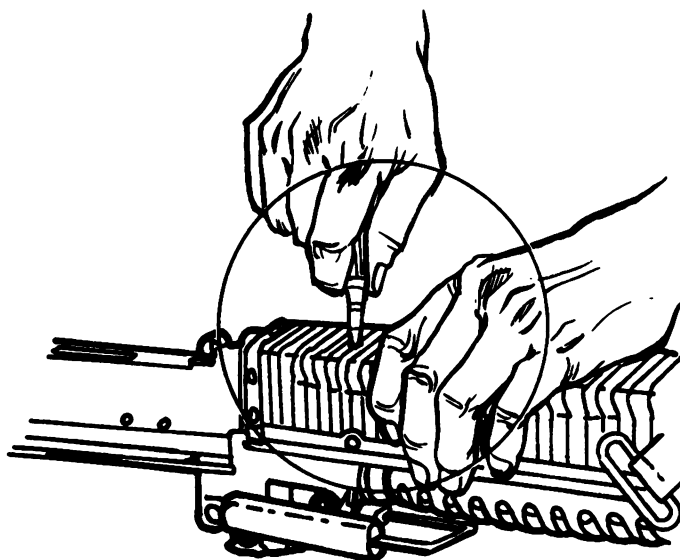

Figure 11. Removing the forearm assembly.
- (1) Turn the receiver so that the top is down.
- (2) Insert a pointed object into the latch hole at the bottom rear of the forearm assembly (figure 11).